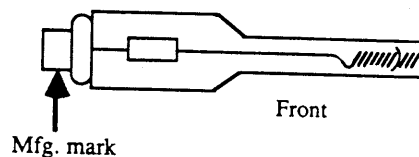

FIGURE 2-21
1. Holding the bulb by the end with the manufacturer's name (Figure 2-21), insert it into the roller tube. Make sure that the leading end is seated on the small copper electrode at the far end of the assembly and the glass nipple on the bulb is facing downward, away from the cover of the assembly.